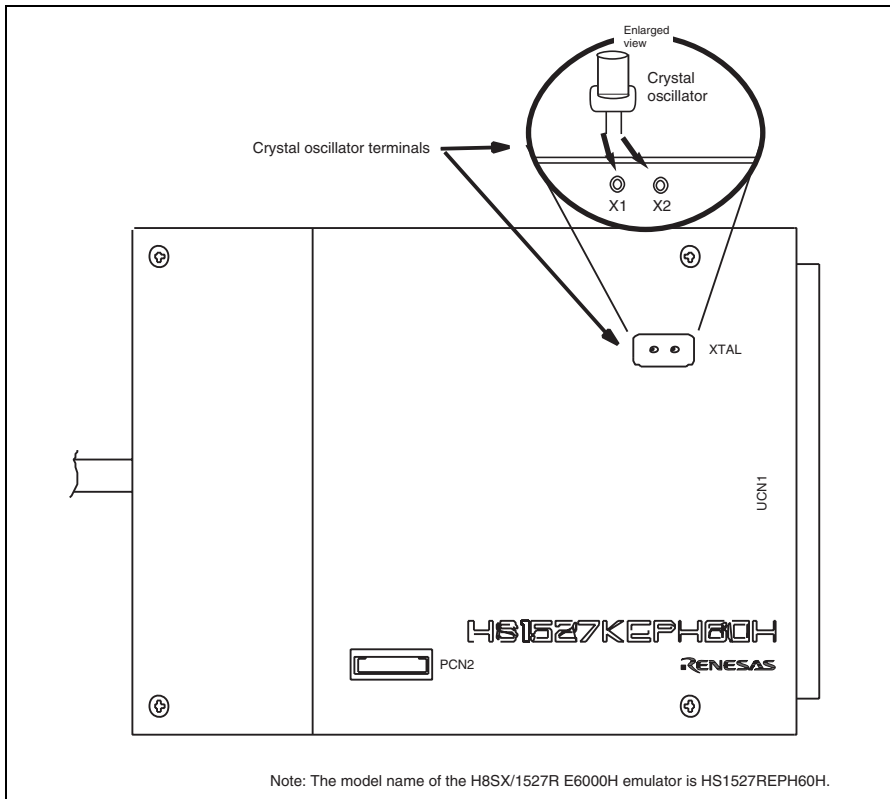

Figure 2.3 Installing the Crystal Oscillator
2. Attach the crystal oscillator into the terminals on the emulator's front-end unit (figure 2.3). Be careful to ensure that the terminals do not touch the casing.